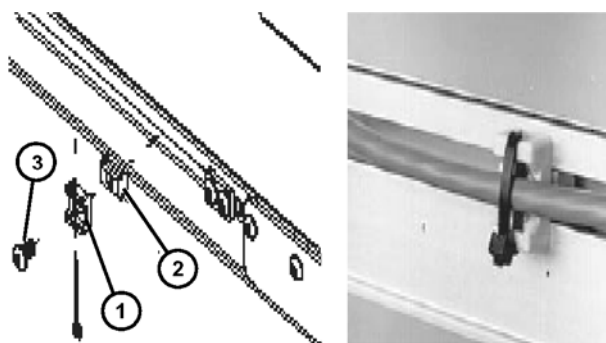

Figure 8
2. To route cable over a previously mounted component or to anchor the cable, use the mounting cable ties (**Figure 8, item 1**) and single drop-in t-bars (**Figure 8, item 2**). Secure with screws (**Figure 8, item 3**).